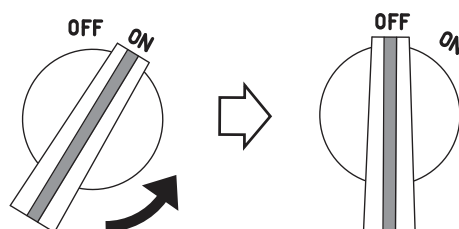

Figure 20. Engine ON/OFF Switch (OFF Position)
2. Place the engine **ON/OFF** switch (Figure 20) in the **OFF** position.